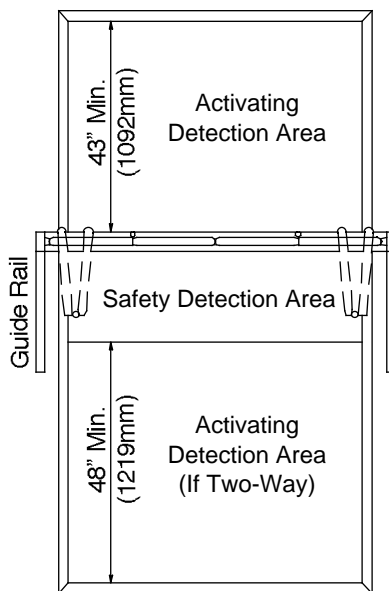

Figure 2
2. You must have a safety mat covering the entire fold travel area. Step through the doorway onto the safety mat and remain motionless for 4 sec. The door should stay open. Repeat at several locations on the mat (see **Figure 2**).